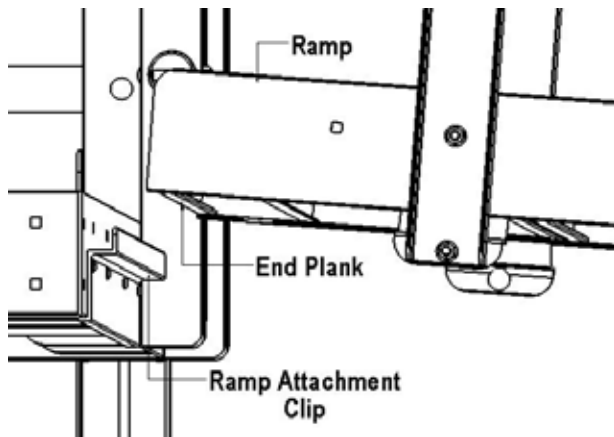

Fig.4.11
4.4 Ramp to Landing Attachment: Before attaching ramp to platform, make sure **Section 3.8** on page 17 has been completed. Place the end plank of ramp over the ramp attachment clip (**Fig.4.11**). Going in an upward direction, any ramp to platform transition will create a gap. Place Upper "T" between the platform and ramp to cover this gap. Attach upper "T" in all four corners using self-tapping screws and cordless drill.